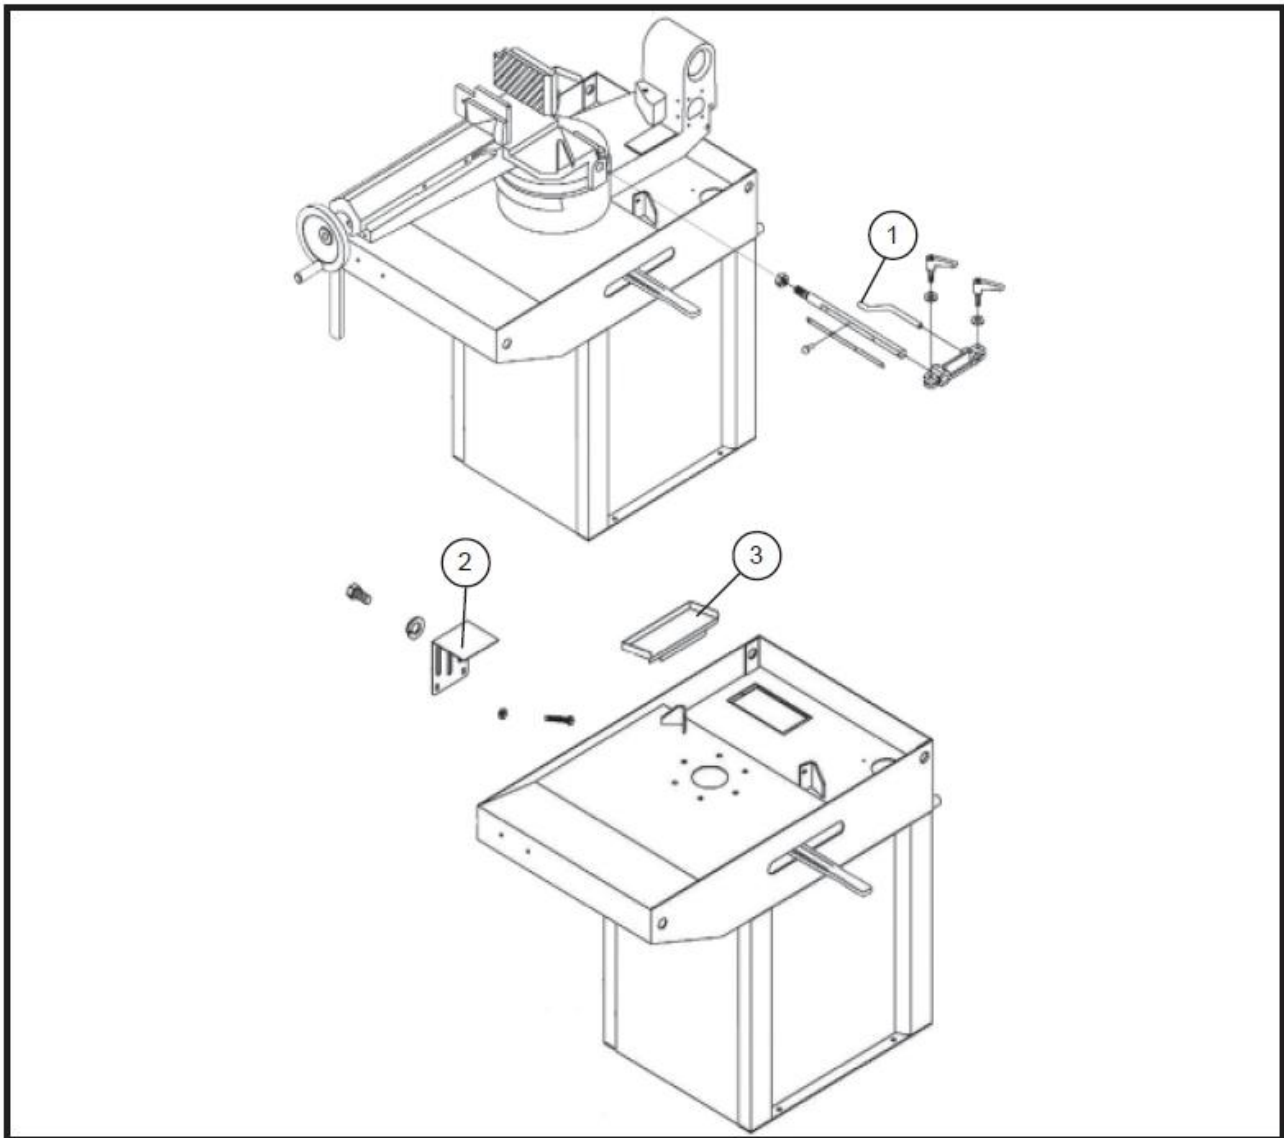

Fig. 3-10
- Mount bar stop Rod (1 fig. 3-10).
- Mount and align the stock material support (2 fig. 3-10) to the left side of the base.
- Mount the splash guard (3 fig. 3-10) to the left side of the base.